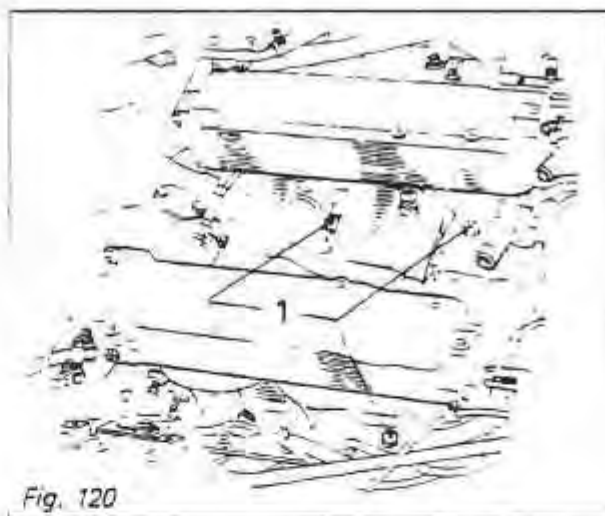

Fig. 120
Remove lower air casing (see preceding page). Unscrew the 4 manifold bolts (1). (Fig. 120)